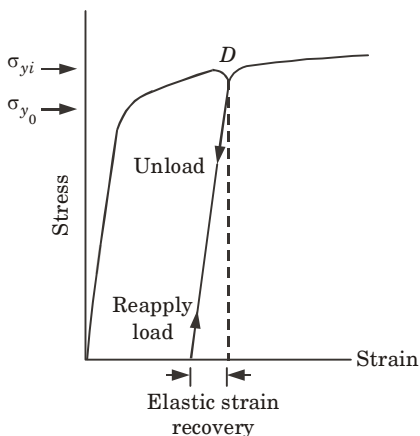

Fig. 1.24.1. Schematic tensile stress-strain diagram showing the phenomena of elastic strain recovery.
4. The amount of elastic strain that it will take before reaching yield point is called elastic strain energy (Fig. 1.24.1).